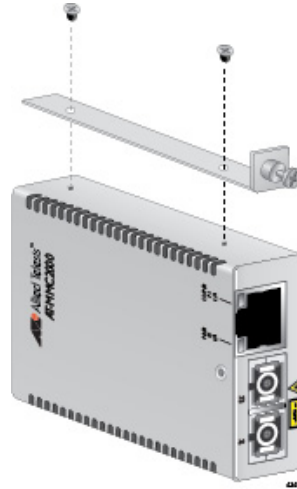

Figure 15. Attaching the Sliding Carrier on a Media Converter
1. Align the sliding carrier on the media converter as shown in Figure 15.